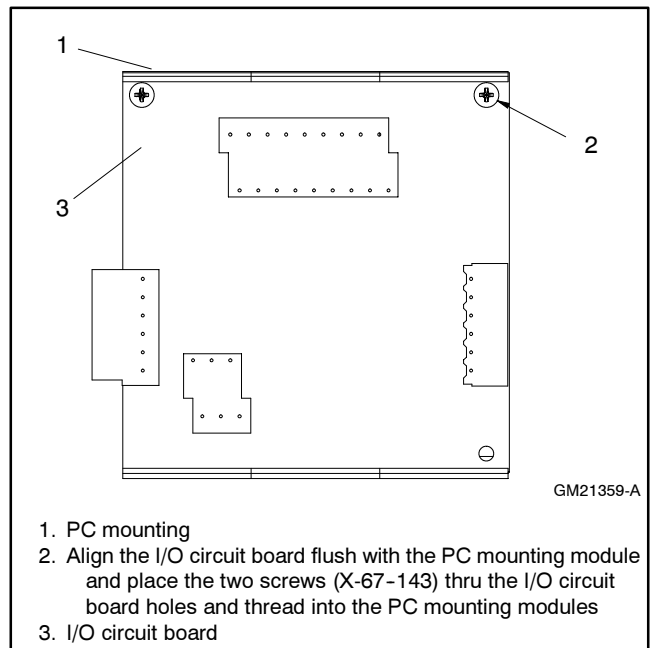

Figure 4 Installing the I/O Circuit Board to the PC Mounting Modules
- 2.6 Align the I/O circuit board edge flush with the PC mounting module. Place the two screws (X-67-143) thru the I/O circuit board holes and thread into the PC mounting modules. See Figure 4.